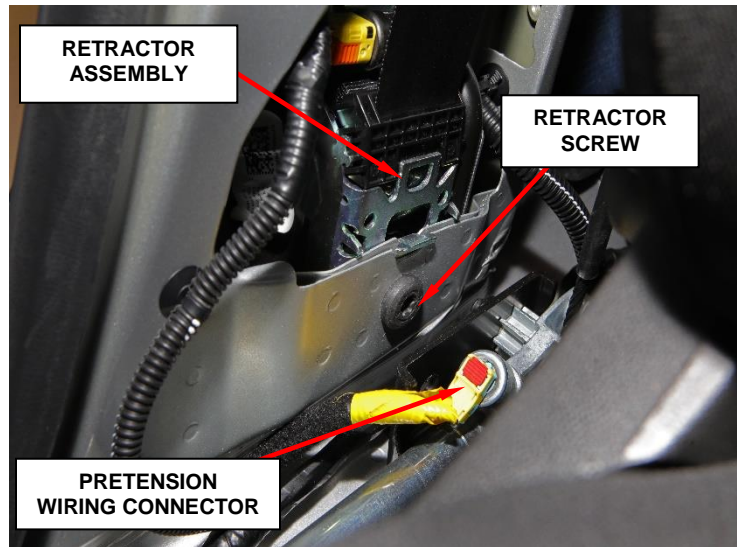

Figure 10 – Retractor Mounting
14. Disconnect the wiring connector to the pretension initiator (Figure 10).
15. Remove the screw that secures the retractor bracket to the base of the inner B-pillar (Figure 10).
18. Position the **NEW** seat belt and retractor unit to the B-pillar by engaging the T-tab) on the retractor bracket into the notch in the inner B-pillar (Figure 10).
19. Install the screw that secures the retractor bracket to the base of the inner B-pillar. Tighten the screw to 40N·m (30ft. lbs.) (Figure 10).